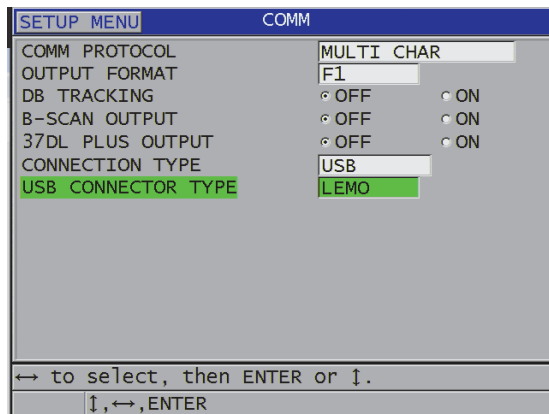

Figure 9-3 Changing the communication parameters
3. In the **COMM** screen (see Figure 9-3 on page 152):